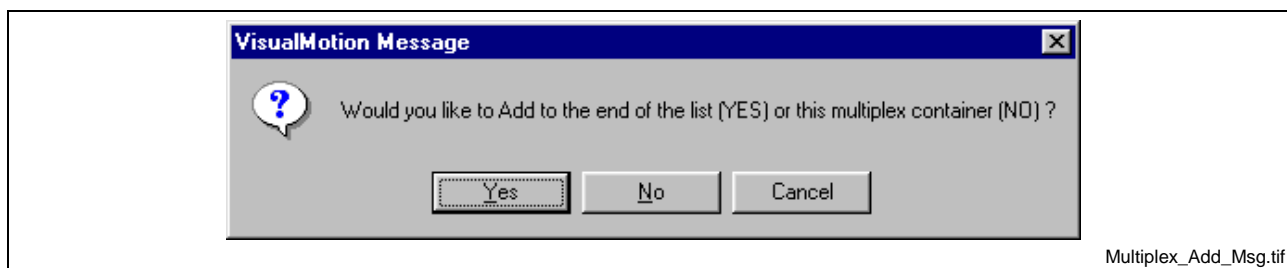

Fig. 6-14: Add Item or Multiplex Item Screen
2. Click Add. The screen in *Fig. 6-14* below appears. Because it is unclear whether you would like to add to the list or to the multiplex container, the Fieldbus Mapper is requesting clarification.